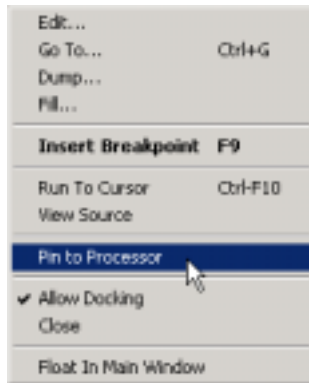

Figure 3-42. Selecting Pin to Processor
7. Right-click the mouse in the top Disassembly window and choose Pin to Processor from the popup menu, shown in Figure 3-42.